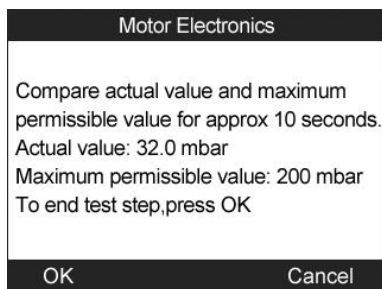

Figure 14.44
- e) Check the exhaust backpressure with engine running at cut-off speed. The tool will read off the actual backpressure value and compare with the upper limit. (Figure 14.44). Select **OK** to end the test or **Cancel** to return to previous menu.